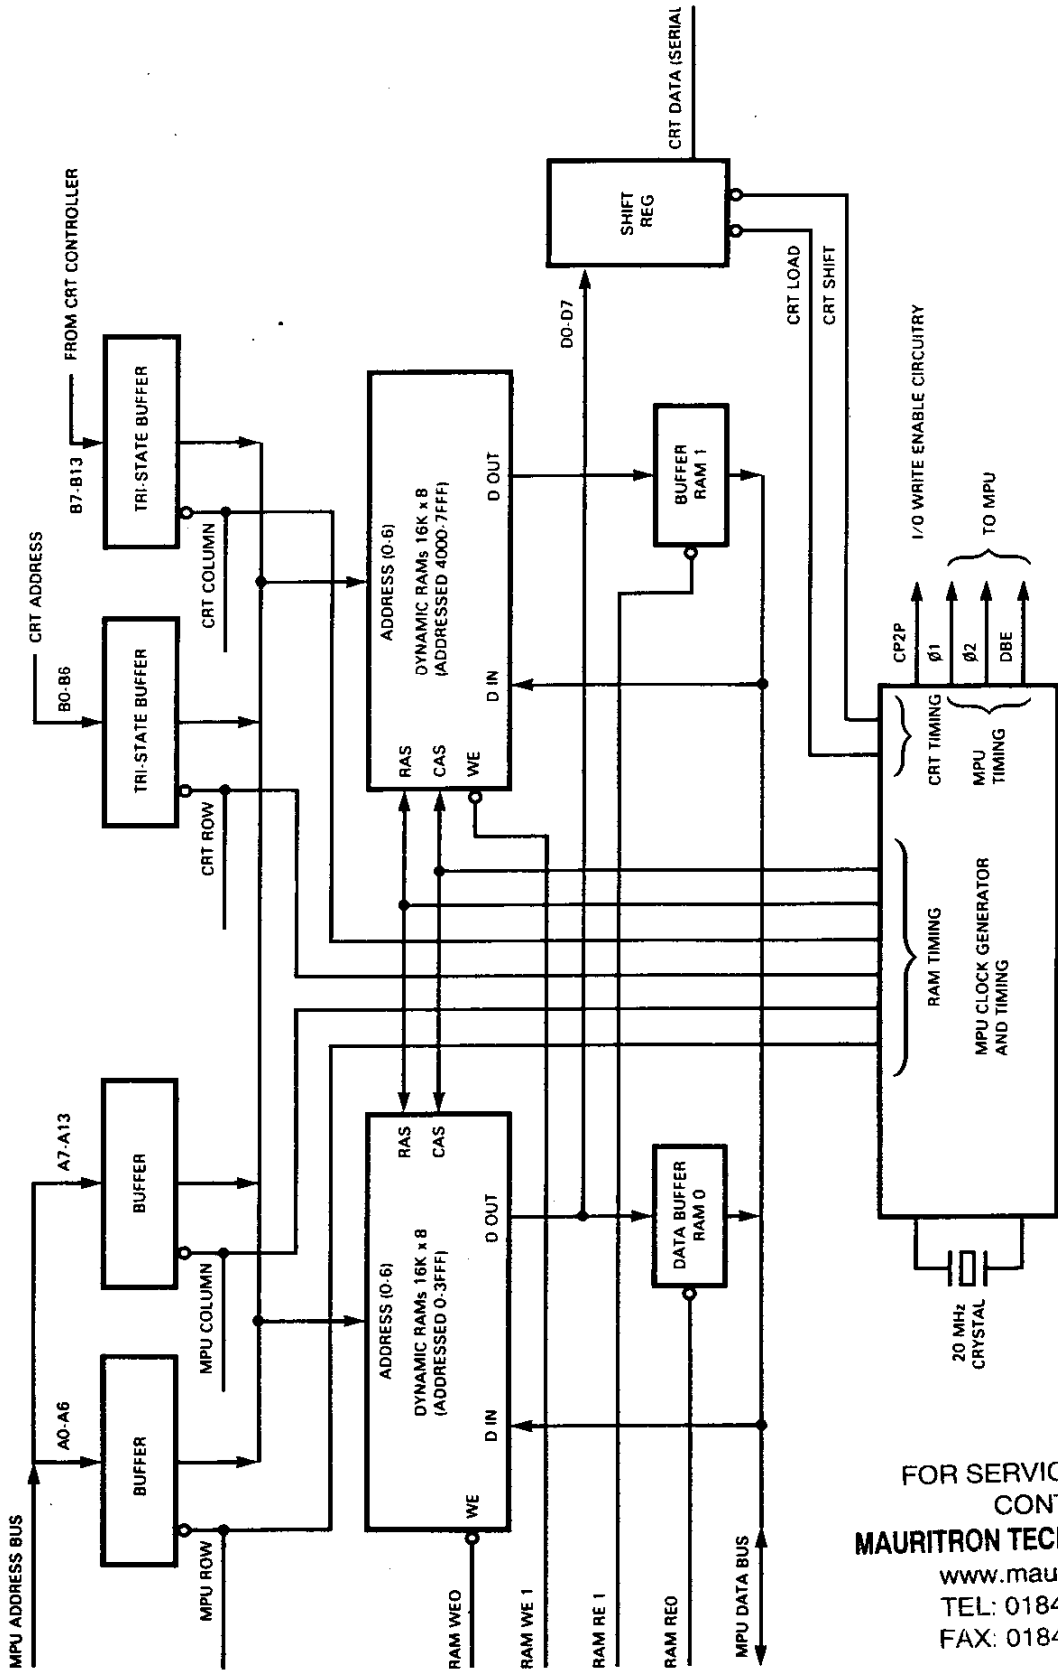

Figure 4.2B Block Diagram of RAM
4.3.2 RAM (Refer to Figure 4.2B)